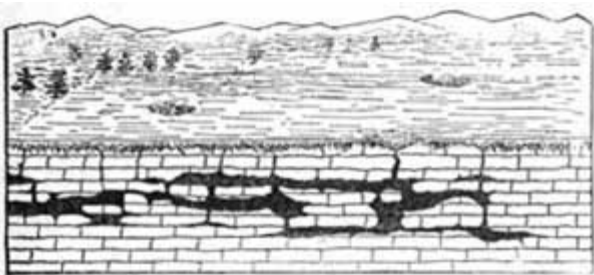

FIG. 30.—Showing how caves and holes are formed by the solvent action of water.
65. Destructive Action of Water. The action of water in stream and sea, in springs and wells, is evident to all; but the activity of ground water—that is, rain water which sinks into the soil and remains there—is little known in general. The real activity of ground water is due to its great solvent power; every time we put sugar into tea or soap into water we are using water as a solvent. When rain falls, it dissolves substances floating in the atmosphere, and when it sinks into the ground and becomes ground water, it dissolves material out of the rock which it encounters (Fig. 30). We know that water contains some mineral matter, because kettles in which water is boiled acquire in a short time a crust or coating on the inside. This crust is due to the accumulation in the kettle of mineral matter which was in solution in the water, but which was left behind when the water evaporated. (See Section 25.)
Rocks and minerals are not all equally soluble in water; some are so little soluble that it is years before any change becomes apparent, and the substances are said to be insoluble, yet in reality they are slowly dissolving. Other rocks, like limestone, are so readily soluble in water that from the small pores and cavities eaten out by the water, there may develop in long centuries, caves and caverns (Fig. 30). Most rock, like granite, contains several substances, some of which are readily soluble and others of which are not readily soluble; in such rocks a peculiar appearance is presented, due to the rapid disappearance of the soluble substance, and the persistence of the more resistant substance (Fig. 31).